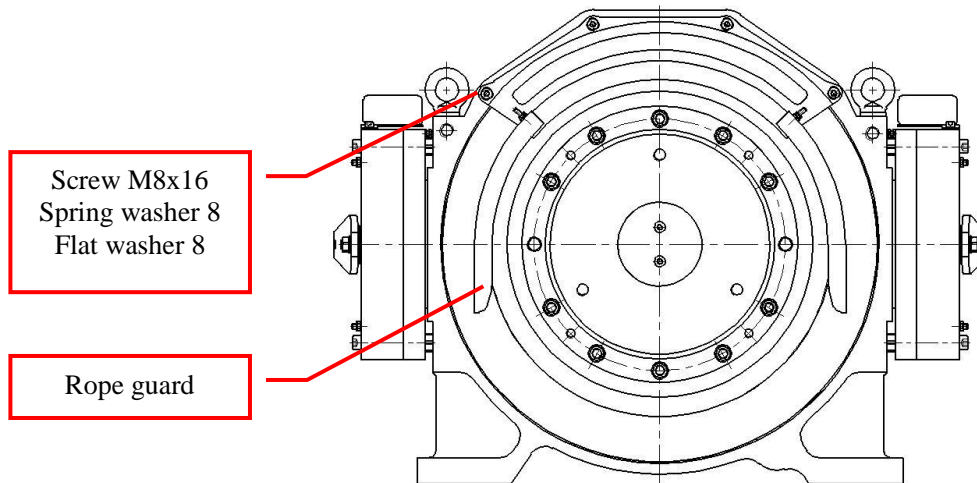

Figure 40: Install the rope guard
5. Reinstall the guard onto the traction machine, and then install the screws M8x16, lock washers 8 and flat washers 8 to secure the rope guard. See Figure 40.